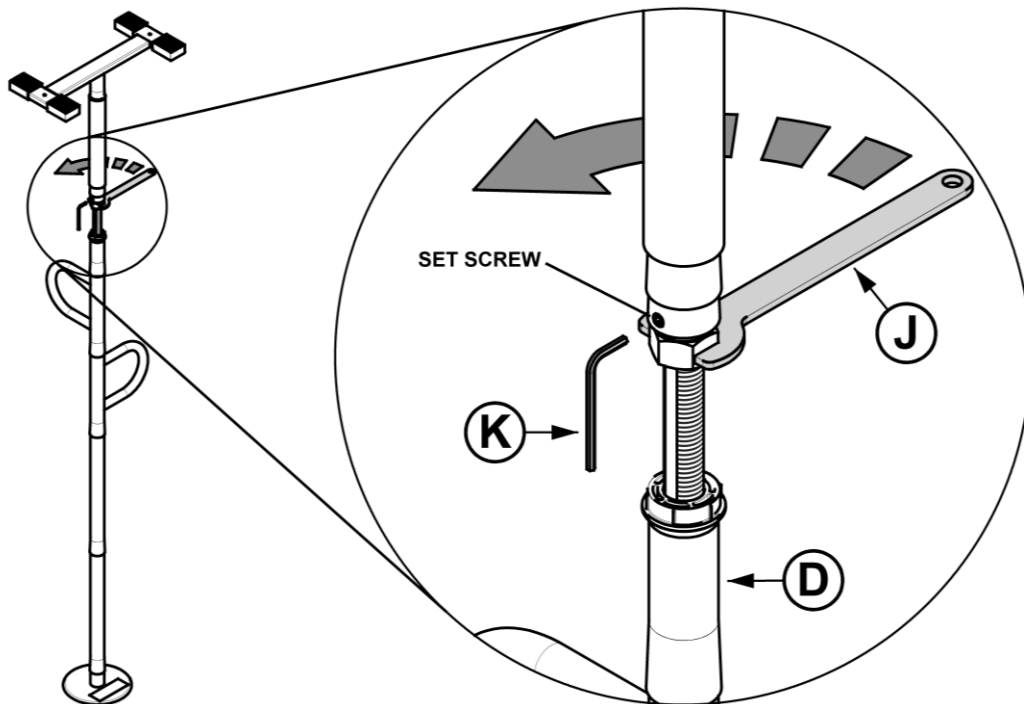

FIGURE 5
5. Ensure that the product is completely vertical. Rotate the nut on Threaded Section **D** counterclockwise using Wrench **J** as shown in *FIGURE 5*. The product must be secured between the floor and ceiling with **ABSOLUTELY NO** sliding of the product between them. Tighten the set screw using Tool **K**.